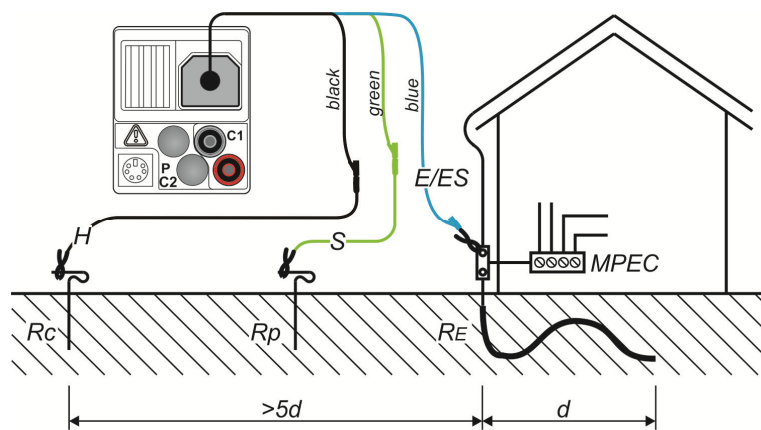

Figure 5.33: Connection of the optional earthing kit (044113) – Measurement of the main earthing system
- ❑ Connect the test cables to the test object (see figure 5.33 and 5.34)
- ❑ The probes must be positioned with sufficient distance from the test object. The distance between the earth connection (E/ES) and the probe (H) should be at least five times larger than the depth or length of the earth connection (see figures 5.33 and 5.34).
5.8 Testing the protective conductor connection (PE)